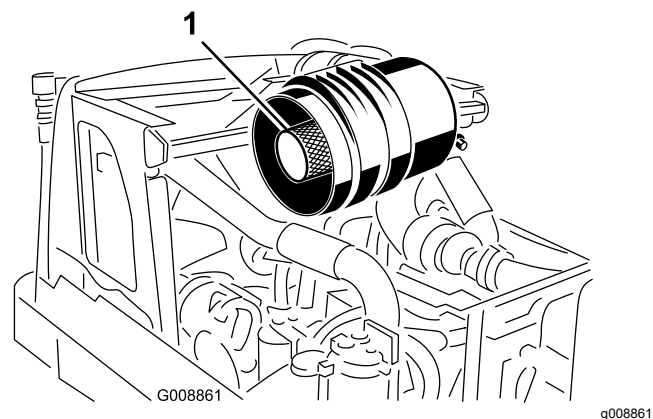

Figure 47
**Important:** Do not attempt to clean the safety filter. Replace the safety filter after every 3 primary-filter services (Figure 47).